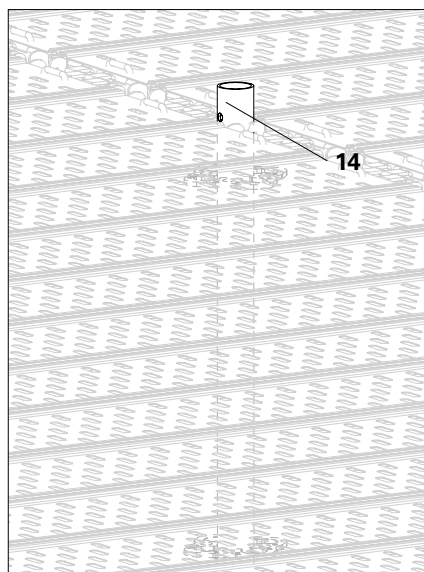

Fig. A2.05a
Top Standards (14) are required, for example, if a spindle is to be inserted into the tube end. On platforms there is a 4 cm projection. (Fig. A2.05a)